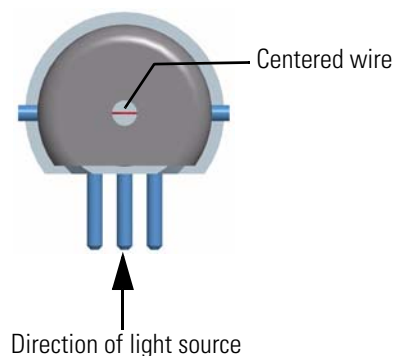

Figure 3-38. Filament wire as seen from the bottom of the filament through the electron lens hole
- a. Turn the filament assembly over and, using a strong light and a magnifying glass, verify that the filament wire is centered in the electron lens hole. If necessary, carefully use forceps (or a dental pick) to adjust the filament wire. Figure 3-38 shows the centered filament wire as seen from the bottom of the filament through the electron lens hole.